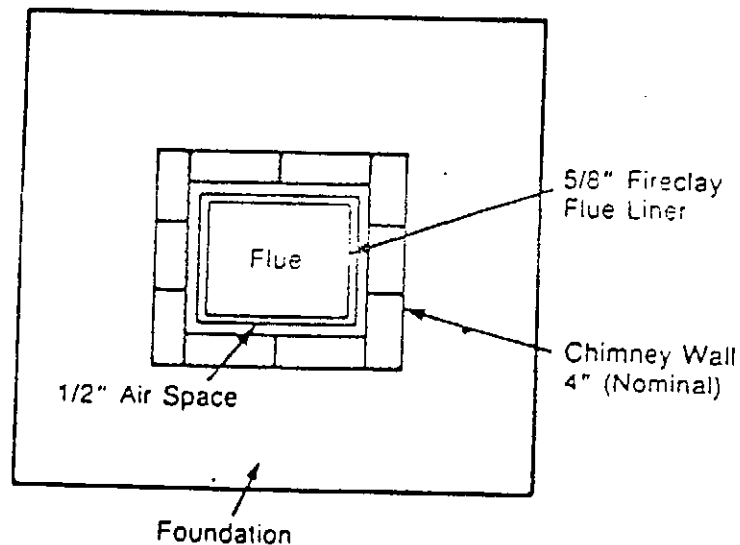

FIGURE 9
2. The chimney must have a fire clay flue liner (or equivalent) with a minimum thickness of 5/8 inch and must be installed with refractory mortar. There must be at least 1/2-inch air space between the flue liner and the chimney wall (FIGURE 9). An equivalent liner must be a listed chimney liner system or other approved material.